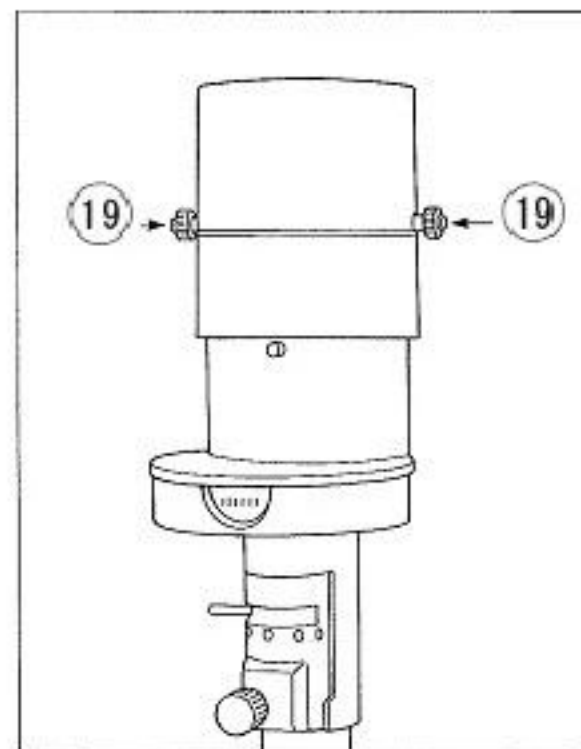

Fig. 33:
- 1) Loosen 2 retaining nuts for lamp housing cover (Fig. 33(19)).